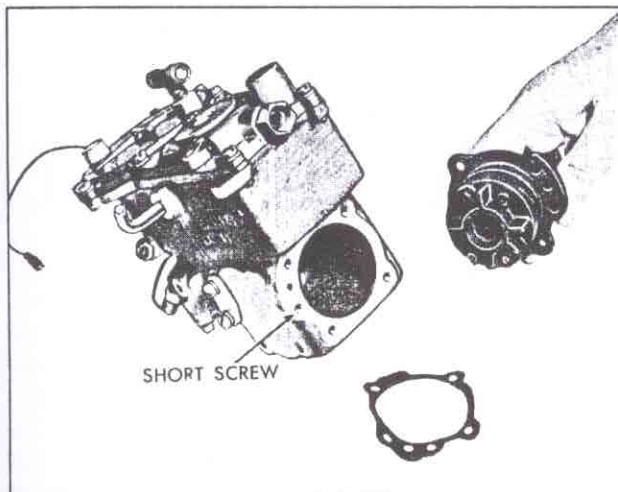

Fig. 155—Installing Fuel Valve Fuel Pump
21. Using a new gasket held in place with light engine oil, carefully position the high pressure fuel pump into the fuel meter and secure with five screws and lockwashers (fig. 155).
NOTE: One screw is shorter and must be installed in hole at 9 o'clock position (fig. 155).